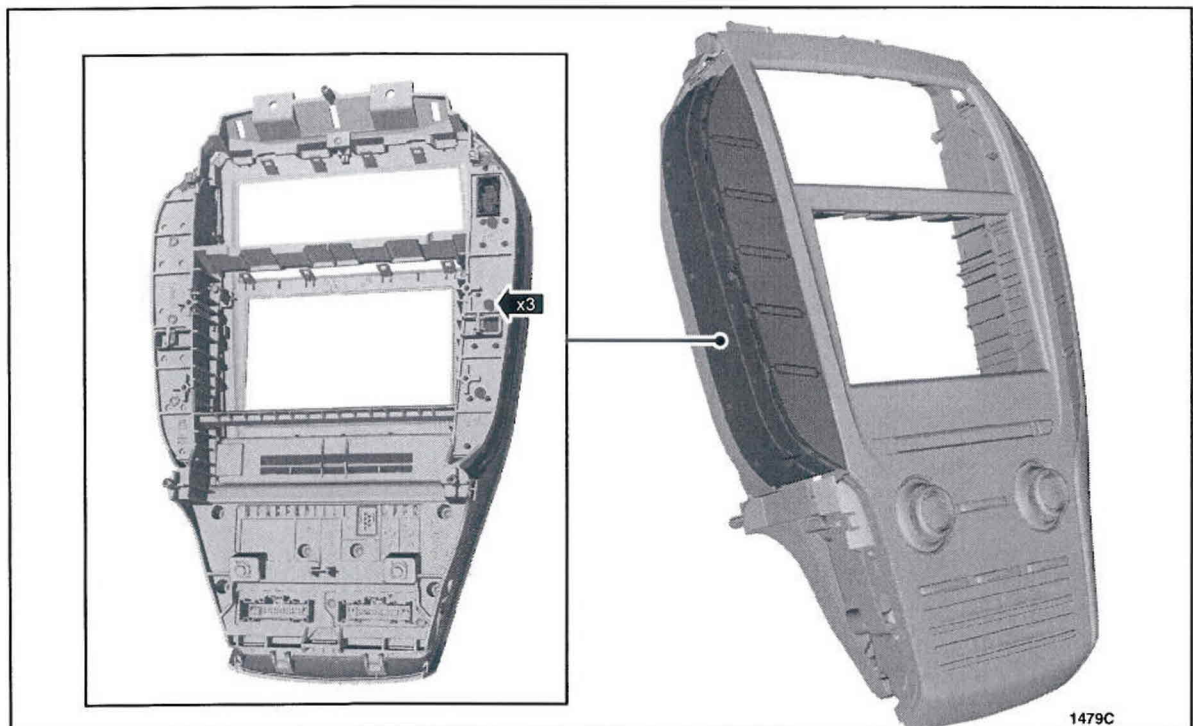

FIGURE 3
5. Remove the three retainers and the GSM. See Figure 3.
1. Install the GSM and the three retainers. See Figure 3.